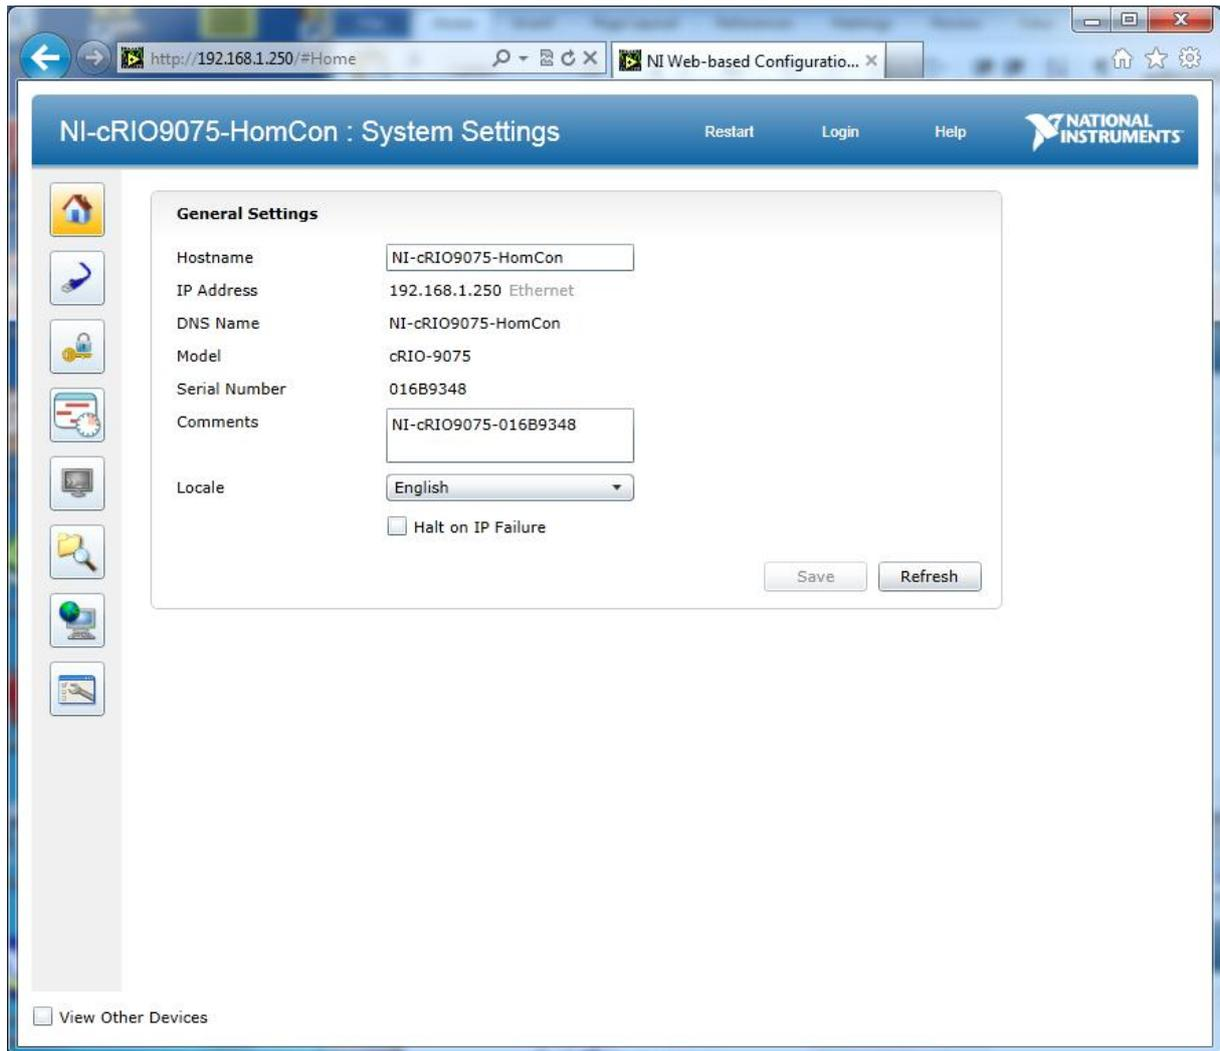

Figure 4. HomCon General Settings page.
- Go to the NI-cRIO9075-HomCon system settings page, which is at the address <http://192.168.1.250:80>. System Settings window (Figure 4) pops up.